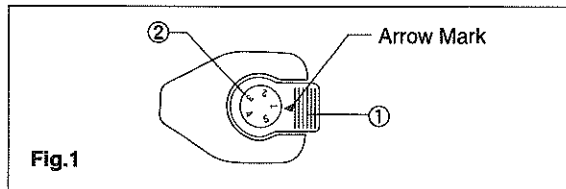

Fig.1
4. Select the volume to be dispensed by turning the volume adjustment dial to the appropriate number.(Fig.1)